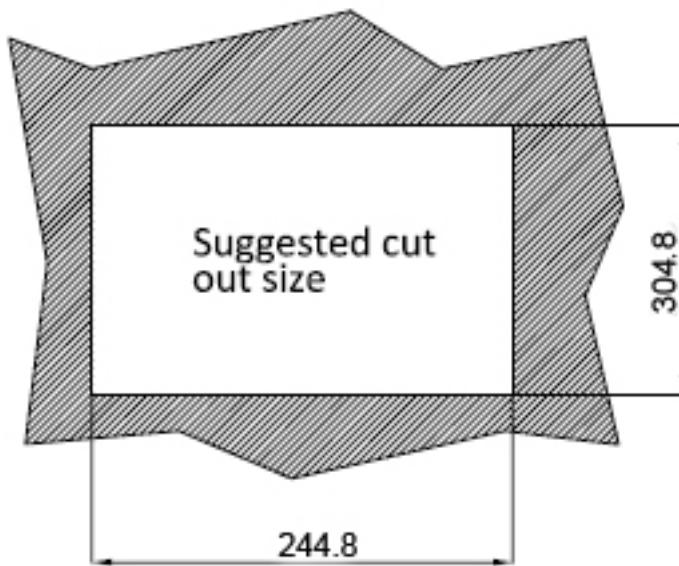

Figure 3-19: PPC-F12B-BTi Panel Cutout Dimensions
Step 3: Cut out a section of the panel that corresponds to the rear panel dimensions of the PPC-F12B/15B/17B-BTi. The recommended cutout sizes are shown below (Figure 3-19, Figure 3-20 and Figure 3-21).